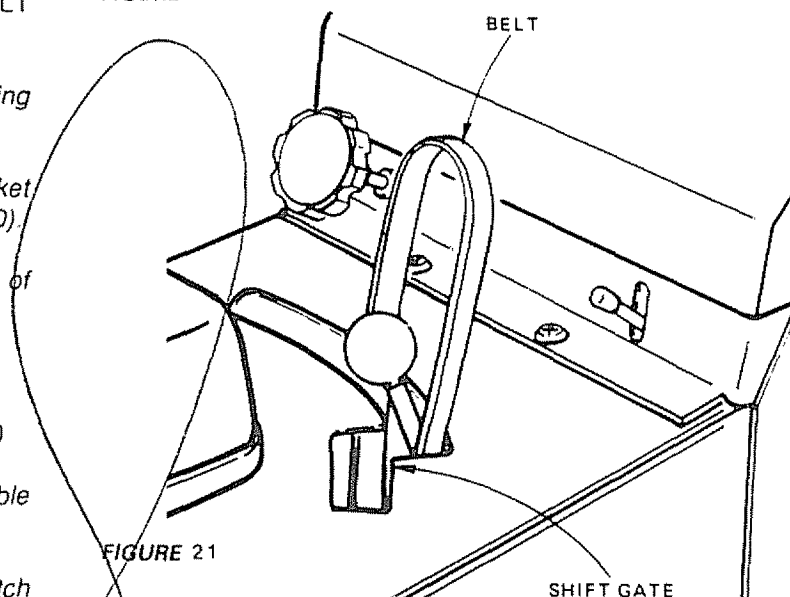

FIGURE 21
- Pull belt out through shift gate to remove from tractor (Fig. 21).